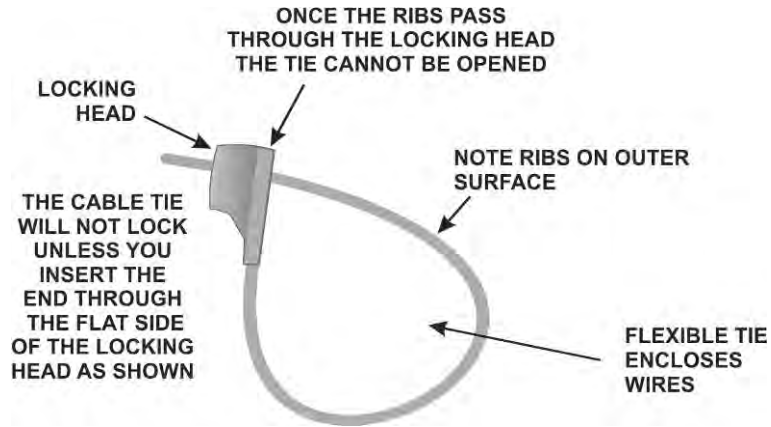
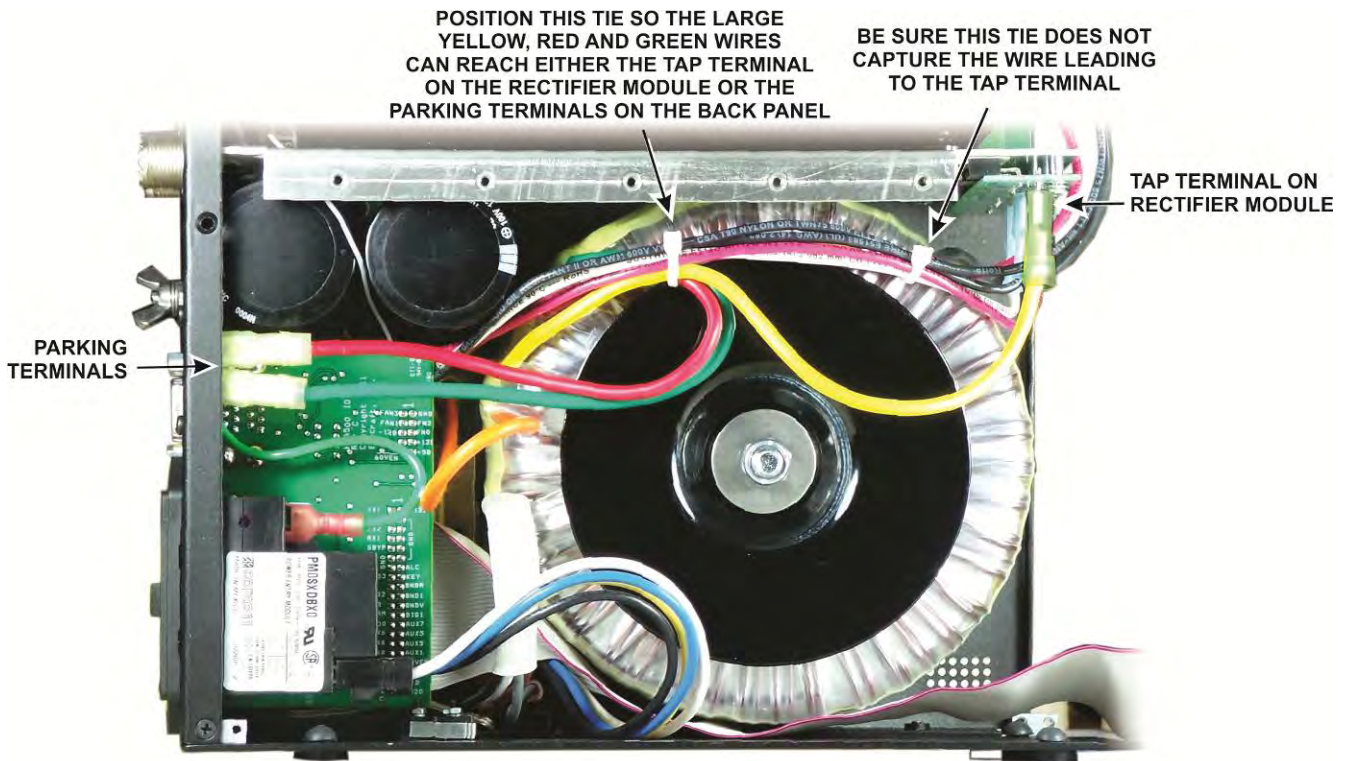

Figure 54. Cable Tie.
Figure 55. Installing Cable Ties.
□ Two cable ties are provided to dress the long wires that pass over the transformer. These ties are supplied to produce a neat arrangement of the wires. They are not required for any safety or operational reason. If you have not worked with this type of cable tie before, Figure 54 shows the correct way to install them. Install the ties as shown in Figure 55. After pulling each tie tightly around the wires, cut off the excess where it exits the locking head. Take care to ensure the yellow, green and red wires can be attached either to the tap terminal on the rectifier module or to the parking terminals as shown in the figure.